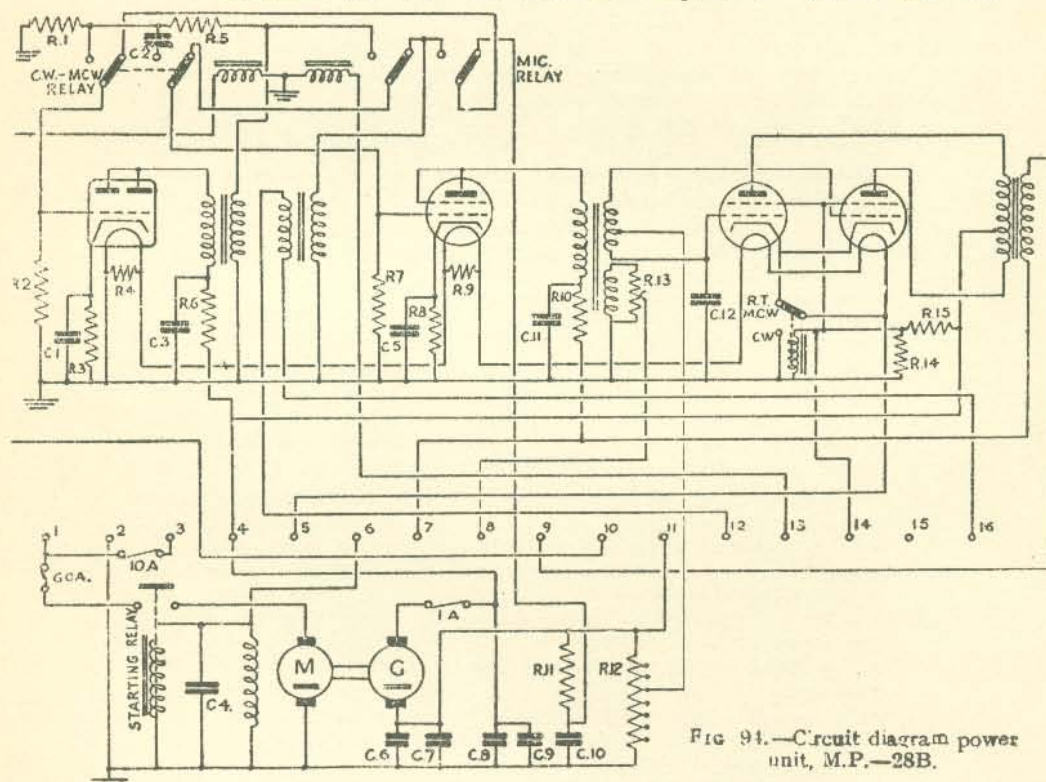

FIG 94.—Circuit diagram power unit, M.P.-28B.
4. Modulator (fig. 94).—The modulator amplifier is mounted with the